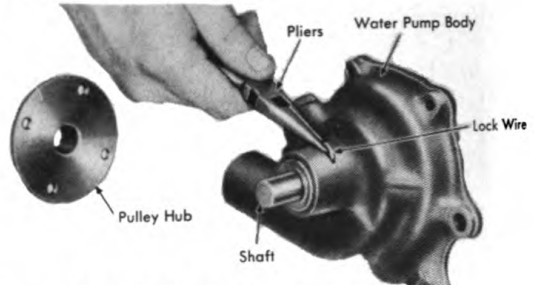

Figure 275. Removing Bearing Retainer Lock Wire.
2. Remove the bearing retaining lock wire. See Figure 275.